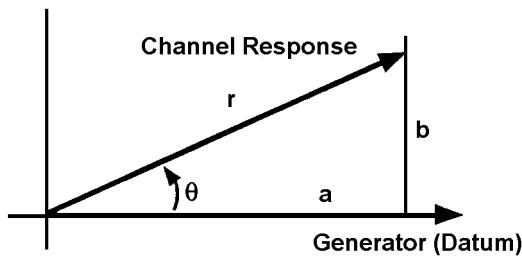

Figure 1.3 - Single Point Measurements
- a) Single Point measurements (i.e., the absolute voltage of either Channel, and its phase with respect to the Generator) as shown in Fig. 1.3: